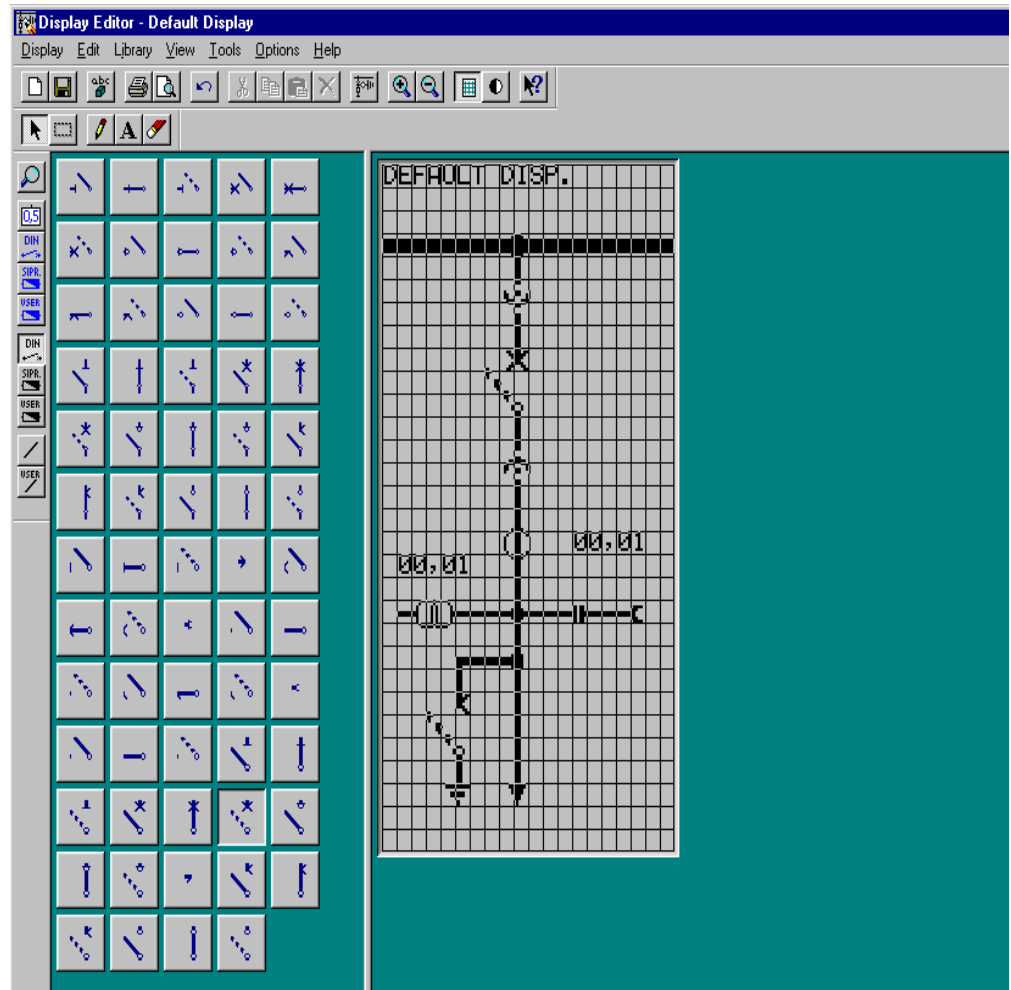

Figure 5-45 Standard default display after opening the Display Editor
As delivered, the relay shows a basic default image (see Figure 5-45) which may be modified or replaced to show the actual equipment conditions. It is also possible, however, to show information in addition to the single-line diagram. The display may also be used, for example, to show a number of measured values.
- In DIGSI® 4, select the default display under the **Setting** option. The Display Editor is started and the default display is opened (see Figure 5-45). *Right-click* in the title bar and select **Open** in the context menu which appears. The desired text may be entered.